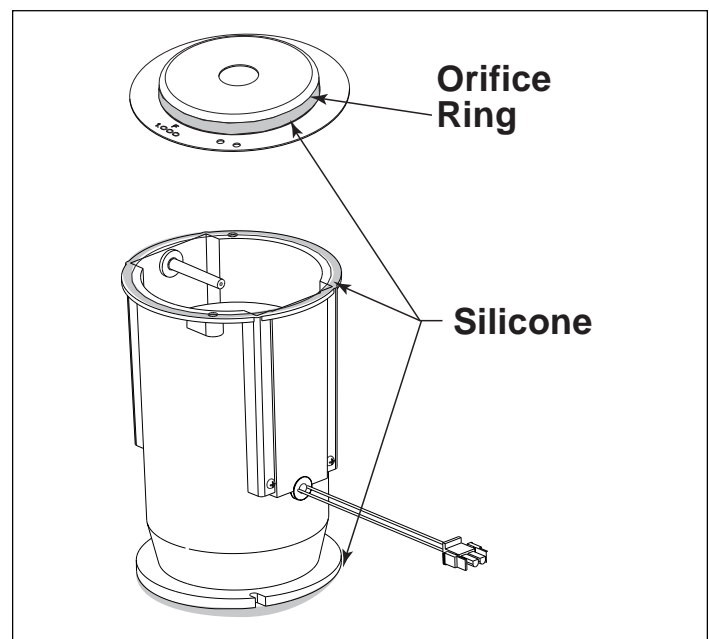

Figure 15. Combustion Air Blower
2. Remove screws from the top and break silicone loose from orifice ring on top side of ventor assembly. (See Figure 15). Inlet pipe may also break loose, this is normal.